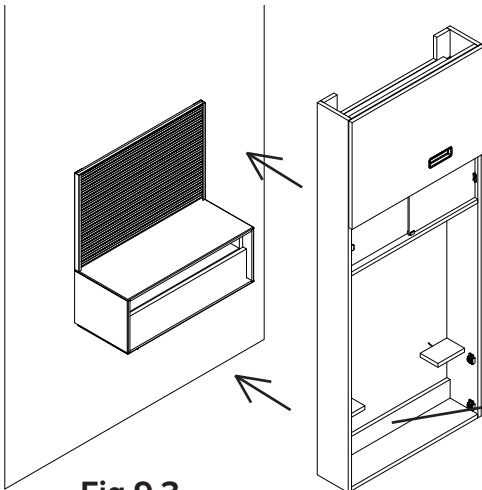
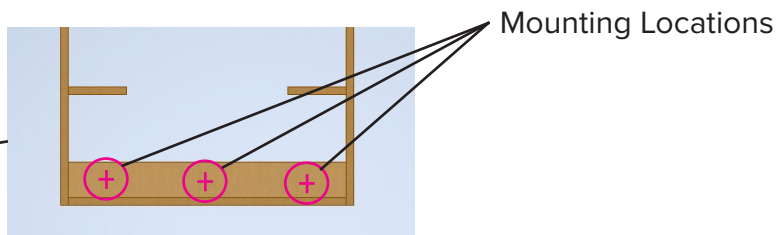
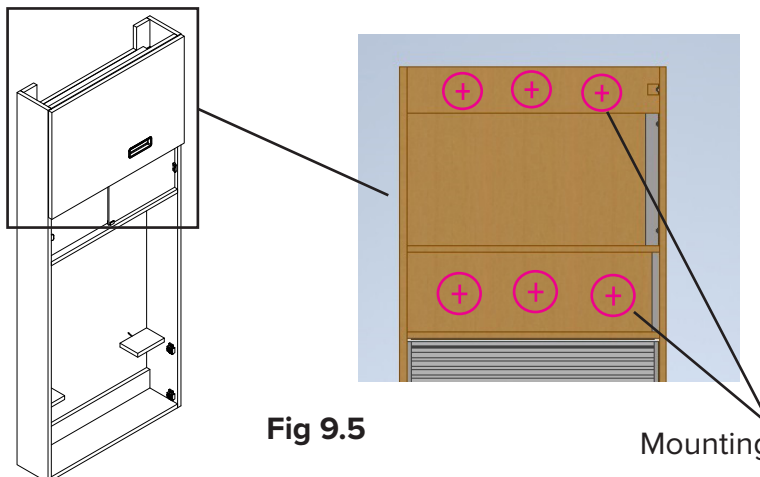

Fig 9.3
Fig 9.4
Fig 9.5
2. Mount the Headwall over the Slat Wall / Corian Counter Top through the opening of the Headwall, (Fig 9.3) and secure the Headwall using the screw mounting locations as shown in Fig 9.4, and Fig 9.5.
4. Secure the upper part of the Headwall into the blocking as shown in the approximate locations and into in Fig 9.5.